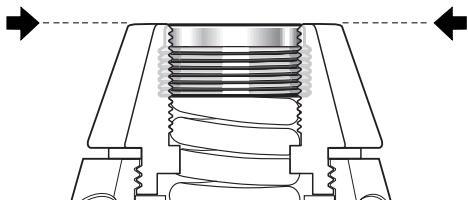

Fig. 5a
10. Check to ensure that the spring pad is positioned over the center of the diaphragm, and place the main spring(29) over the spring pad inside the spring retainer. Then lay the washer(30) on top of the spring.
11. Mate the adjustment screw(31) over the spring and washer, and turn it clockwise to engage the threads of the spring retainer. Apply a 8mm hex key to turn the adjustment screw to its appropriate preliminary setting, depending on whether it will assembled in the standard configuration, or with the "D" environmental protection kit.
- a. Standard Spring Retainer – Turn the adjustment screw clockwise until it is exactly flush with the top of the spring retainer (see Fig. 5a).